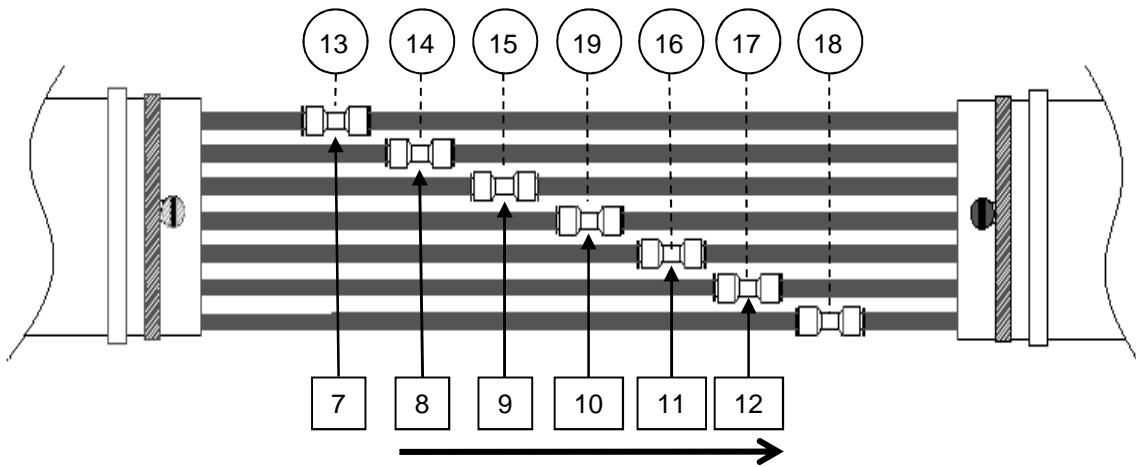

Figure 17
12.10 Repeat procedure for Tubes 8 through 12. Adjust each Tube Coupling position until there is about a 1/4"- 3/8" space between its end and the end of the previously installed Tube Coupling. **See Fig. 17.**